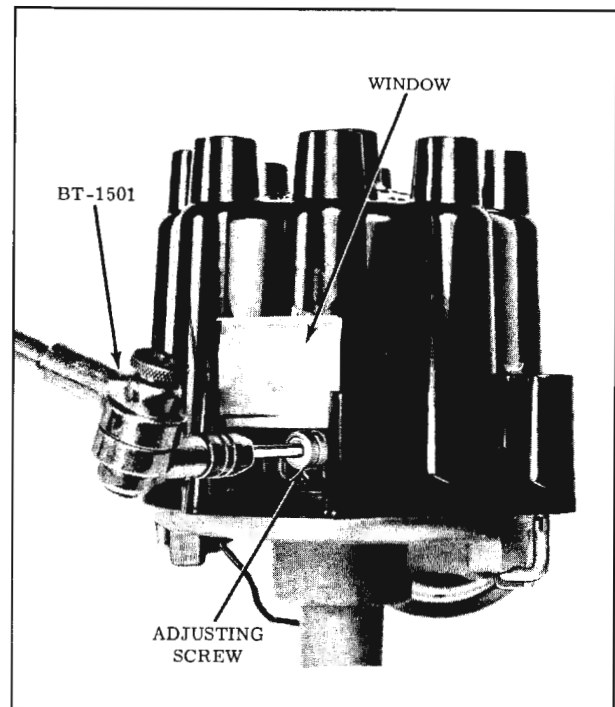

Fig. 14-128 Adjusting Dwell
6. Start the engine and with the engine running at idle speed, insert dwell adjusting Tool J-6296 or BT-1501 through the distributor window into the Allen head of the adjusting screw as shown in Fig. 14-128. Adjust the dwell angle to  $30^{\circ}$ .
9. Start the engine and with the engine running at idle speed, insert dwell adjusting Tool J-6296 or BT-1501 through the distributor window into the Allen head of the adjusting screw as shown in Fig. 14-128. Adjust the dwell angle to 30°.